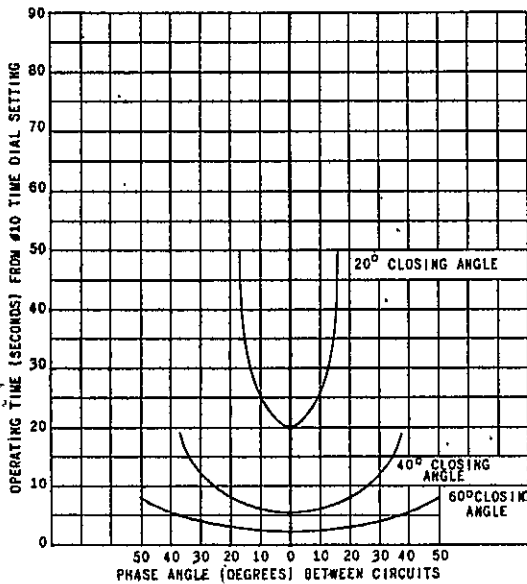

Fig. 4 (K-6400151-3) Typical Time-Phase Angle Curve With Rated Voltage. Relay Type LJS52D1
Typical time vs. phase-angle curves are shown in Figs. 4 and 5 for 60 cycle relays. The Model 12IJS52D1 relay has a standard closing angle setting of 20 degrees, and has its drag magnet adjusted to provide 20 seconds time delay from No. 10 time-dial setting for voltages in phase. The closing angle
on this relay can be adjusted to angles greater than 20 degrees but with a corresponding decrease in time delay as shown in Fig. 4. The approximate reset time with both coils de-energized is about 40 seconds. The approximate reset time with one coil energized at rated voltage varies from 3 seconds on the 20° setting to 6 seconds on the 60° setting with #10 T. D. S.
3. With both coils connected to 115 volt source with zero displacement, check that pick up time agrees with values given in Figures 4 or 5 plus or minus 10 percent.